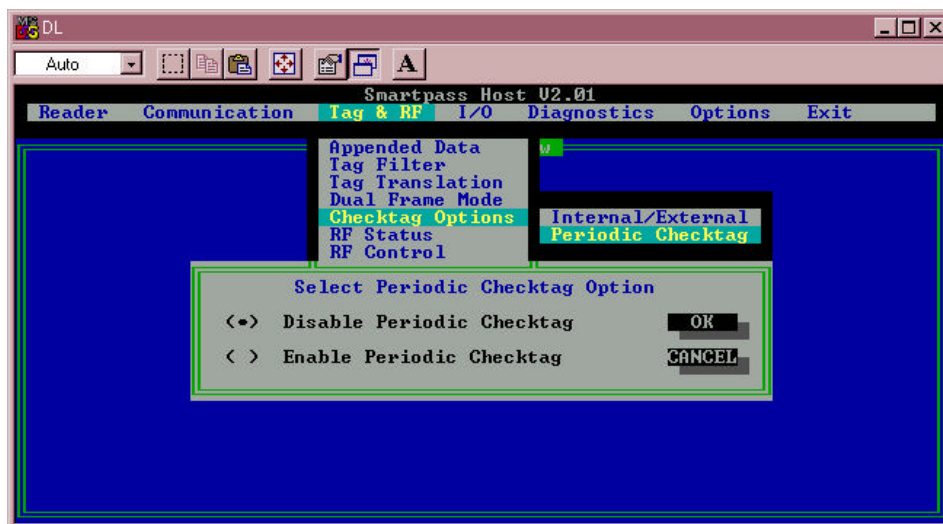

Figure 4-11 Select Periodic Checktag Option Dialog Box
2. To disable or enable periodic check tag, click **Periodic Checktag** option to display the **Select Periodic Checktag Option** dialog box, as shown in Figure 4-11.